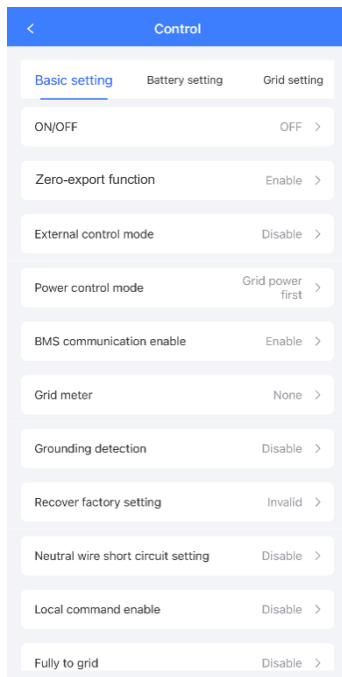
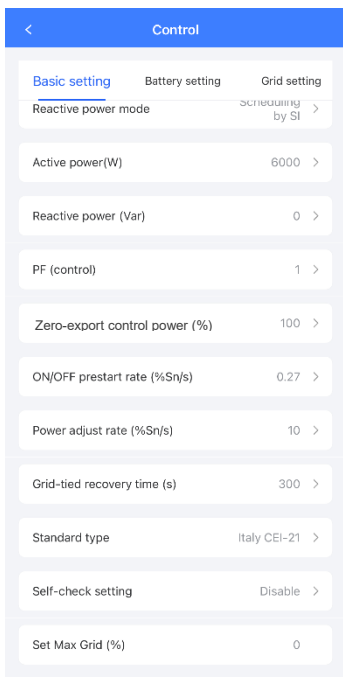

Figure3-62 Set "Zero-export function"
Figure3-63 Set "Anti-backflow control power"
- When there is a PV inverter in the user's home, it is recommended to install the smart meter in the grid output side of the PV inverter to ensure the accuracy of grid electricity statistics, and the address is set to A-002. As shown in the Figure3-62 and Figure3-63.